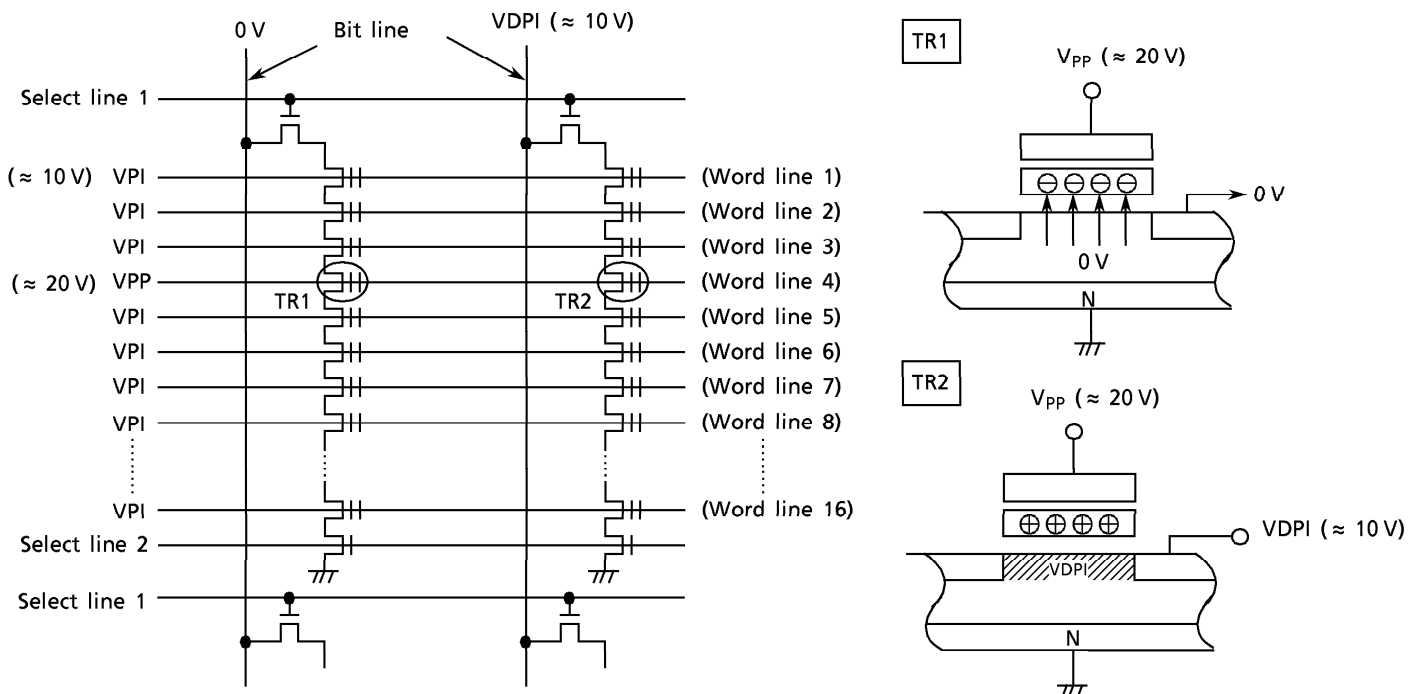

Figure 16. Program Device Physics
Figure 16 shows the NAND memory cell level details of the programming mechanism. The Program operation is used to write “0” data into an erased memory cell (“1” data cell) using a tunneling mechanism. An example Program operation to program “0” data into TR1 and “1” data into TR2 is as follows:
- (1) A high level is applied to Select line 1 and a low level is applied to Select line 2 so that the device is connected to the Bit line and disconnected from the ground line.
- (2) V_{pp} (≈ 20 V) is applied to the selected word line and an inhibit voltage of V_{PI} (≈ 10 V) is applied to the unselected word lines.
- (3) 0 volts is applied to the bit line tied to cell transistor TR1 and the inhibit voltage V_{DPI} (≈ 10 V) is applied to the bit line tied to TR2.
- (4) V_{pp} is applied between the control gate and the channel in TR1, as shown in Figure 16, which causes electrons to be injected from the channel to the floating gate by a tunneling mechanism.
- (5) The injected electrons are captured in the floating gate surrounded by an oxide layer and will remain, even after power is cut off, until they are removed by an Erase operation.
- (6) Although 20 volts is applied to the control gate of TR2, the voltage difference between the control gate and the channel is only 10 V because the voltage of the channel is 10 V. Therefore, tunneling does not take place. (i.e. the electron is not injected into the floating gate.)
- (7) Tunneling does not take place in the unselected pages because of the 10 V (V_{PI}) applied to the unselected word lines which makes the voltage difference between the control gate and channel only 10 volts.